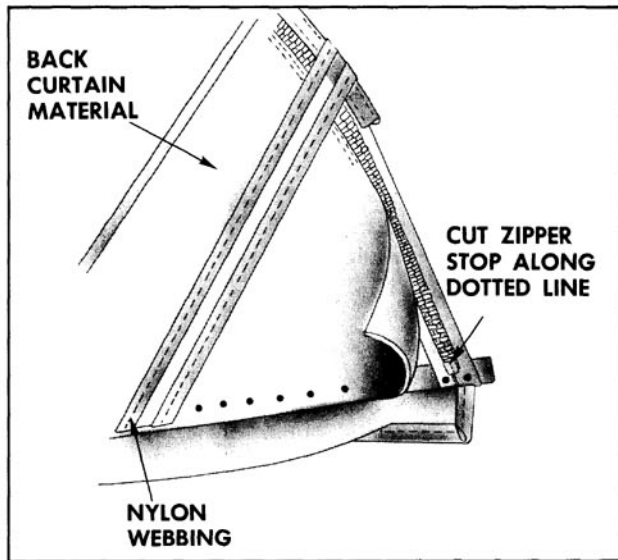

Fig. 16-454 Back Curtain Vinyl
9. Using a pair of wire cutting shears or other suitable tool, cut zipper stop along dotted line and remove both halves of stop from zipper. (Fig. 16-454)
8. Tack nylon webbing to rear trim stick. (Fig. 16-454)